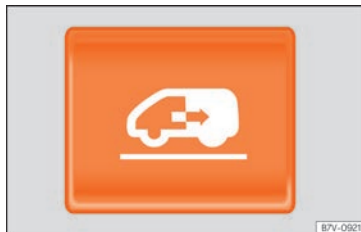

**Fig. 99** On the instrument panel, on the vehicle key and on the inside lining of the sliding door: button to open and close an electric sliding door.
- Press the » Fig. 99 button on the dash panel, on the remote control key and on the interior lining of the sliding door. The sliding door opens with the rollback anti-trap function as long as the button is not pressed again.
- Press the » Fig. 99 button on the dash panel, on the remote control key and on the interior lining of the sliding door. The sliding door closes with the rollback anti-trap function as long as the button is not pressed again. As it closes, a warning sound is given.
- Press and hold the  button » **Fig. 99.**